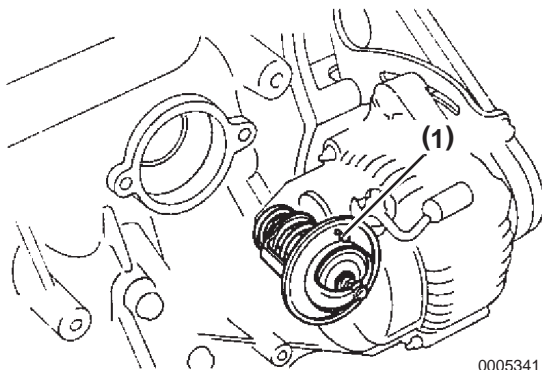

Figure 7-13
2. Install a new gasket to the thermostat (P/N 119773-49570), ensure the jiggle valve **(Figure 7-13, (1))** faces upwards.